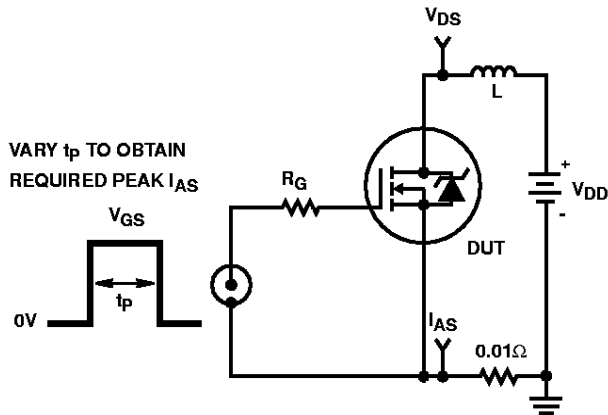

FIGURE 15. UNCLAMPED ENERGY TEST CIRCUIT
4.  $V_{DD} = 50\text{V}$ , starting  $T_J = 25^\circ\text{C}$ ,  $L = 4.5\text{mH}$ ,  $R_G = 25\Omega$ , peak  $I_{AS} = 14\text{A}$ . See Figures 15, 16.